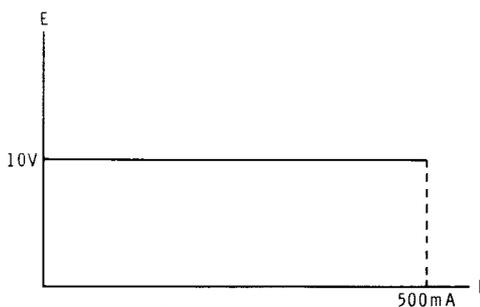

Figure 2
2. Turn the CURRENT control to its maximum clockwise position. The values of voltage and current are shown in Figure 2.